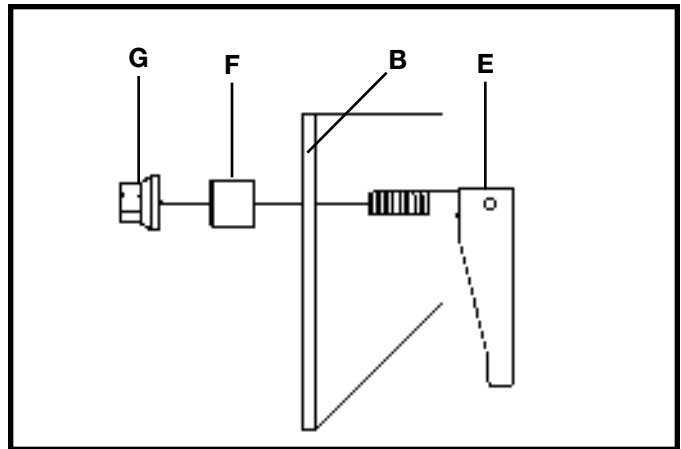

Fig. 42
3. Insert locking lever (E) Fig. 42, through the hole in left edge of motor cover (B). Assemble spacer (F) over threads of lever (E), and fasten lever to motor cover with lock nut (G).